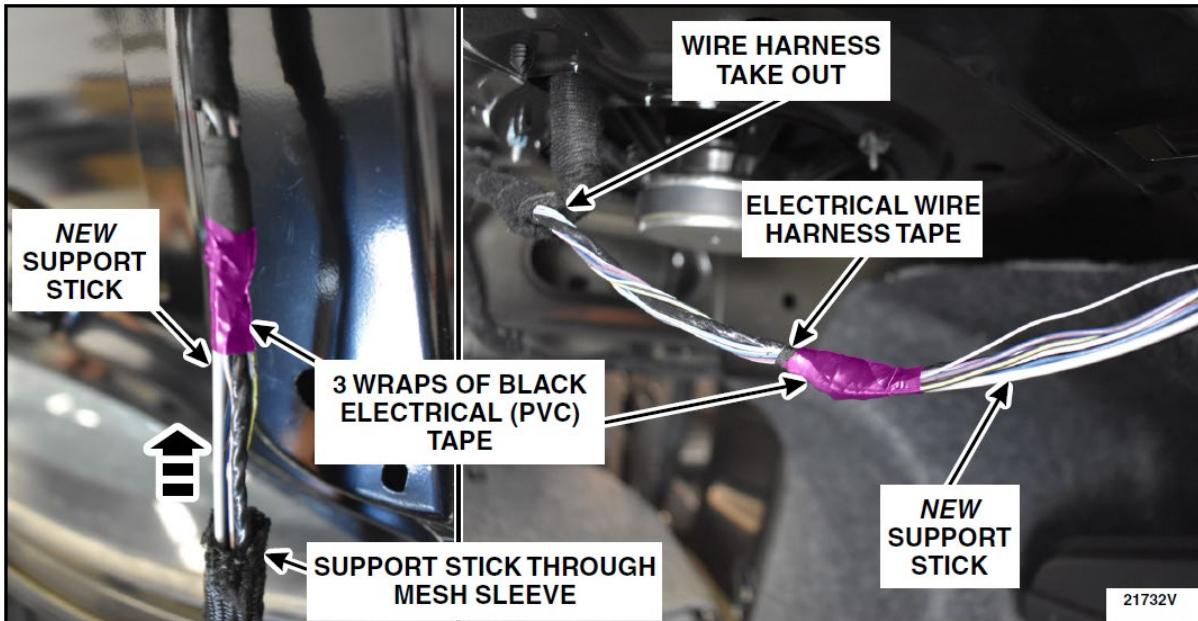

FIGURE 21
30. Pass the new support stick through the mesh sleeve. Place the ends of the support stick at the halfway point on the Coroplast® 837 or equivalent electrical wire harness tape. Apply 3 wraps of KTI73510 or equivalent black electrical (PVC) tape to secure the support stick on each end of the wire harness. See Figure 21.